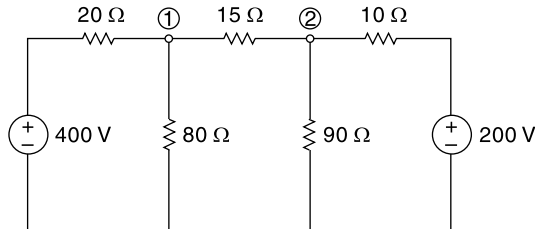

Fig. 4.39 Circuit of Ex. 4.25
4.25 Find current in the 15Ω resistor using nodal method (Fig. 4.39).
Let us first designate the nodes '1' and '2' in Fig. 4.39 and assume nodal voltages to be (V_1) and (V_2) respectively